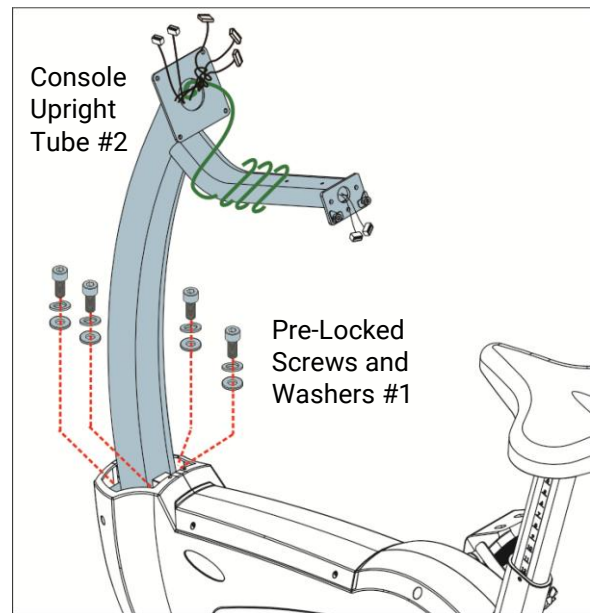

Fig 2.5-5B
- 2) Attach the **Pre-Locked Screws and Washers #1** to the **Console Upright Tube #2** with the provided Allen Wrench (6mm). (Fig 2.5-5B)